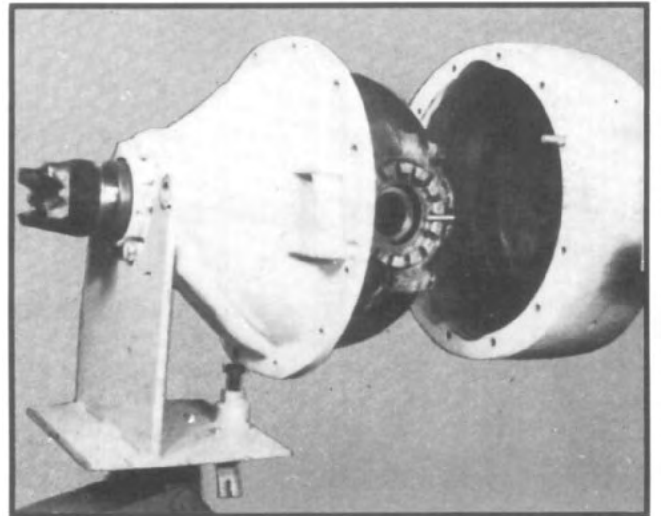

Fig. 43
6. Roll differential carrier away from the axle. (See fig. 43).
3. Position the differential carrier in the axle housing with a suitable roller jack, (See fig. 43), picking up two locating studs.